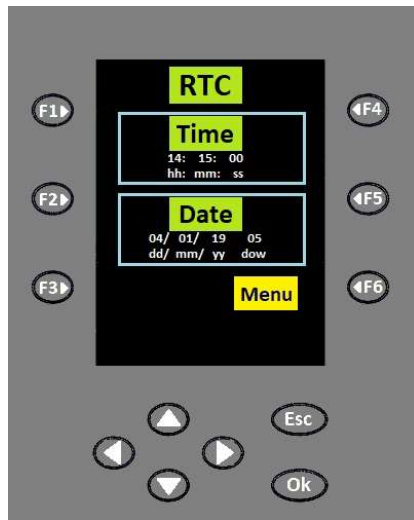

Figure 23 RTC (Clock)
- As shown in **figure 23**, **RTC** (Real Time Clock), **Time** (hh:hour / mm:minute / ss:second) and **Date** (dd:day / mm:month / yy:year / dow:day of week) are read from the color LCD display.